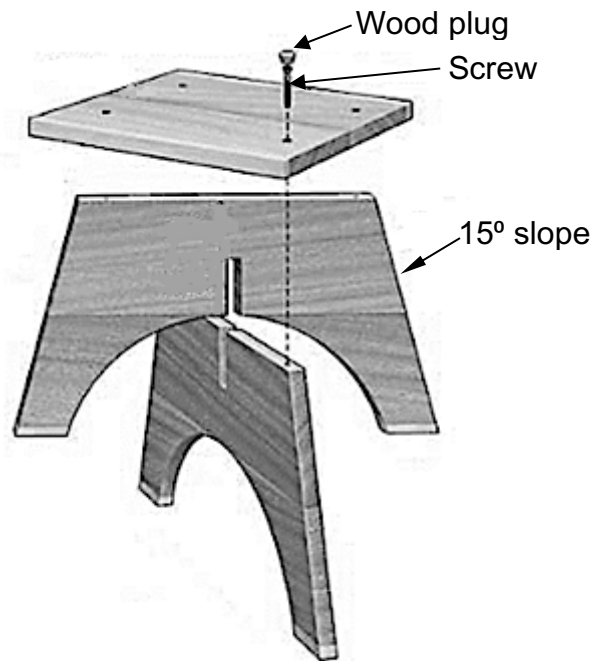

Fig. 2
- 2 Figure 2 shows an exploded view of a side table made of South African pine.